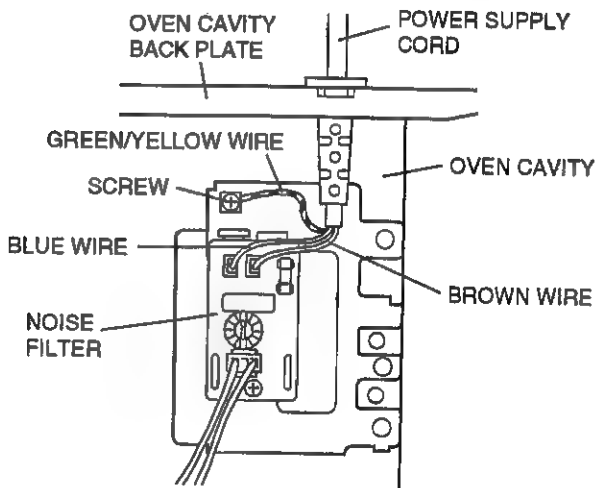

Figure C-5(a). Power Supply Cord Replacement
4. Release the power supply cord from the rear cabinet, referring to the Figure C-5 (b).